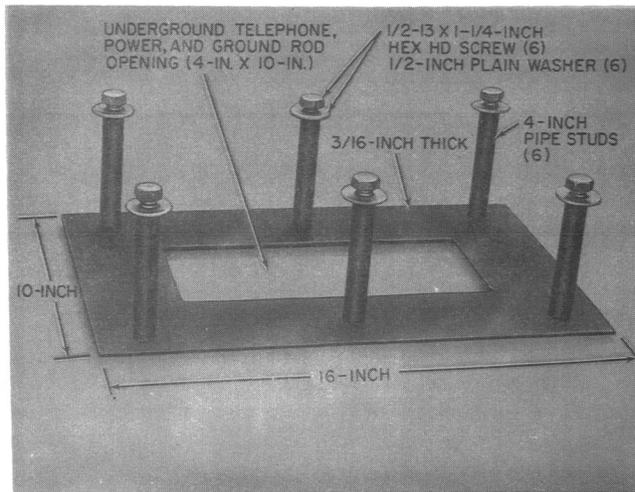

Fig. 14—List 152 Buried Base
D. KS-20842, List 152 Buried Base (Fig. 14)
3.07 List 152 Buried Base (Fig. 14).